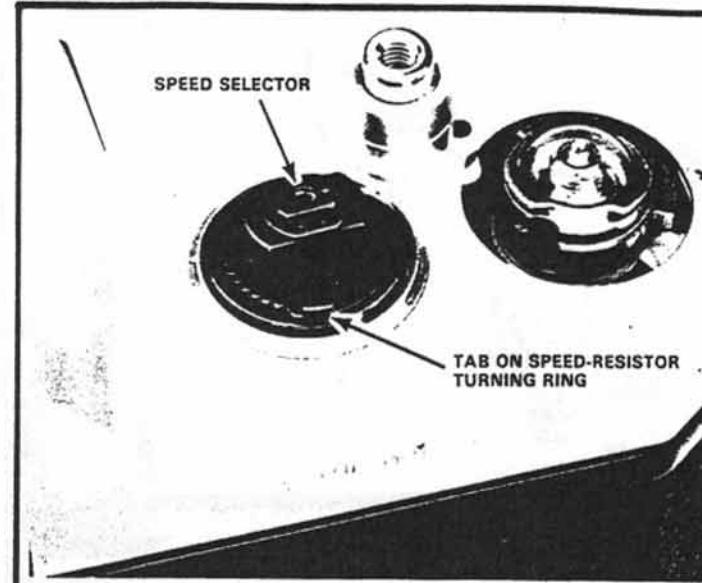
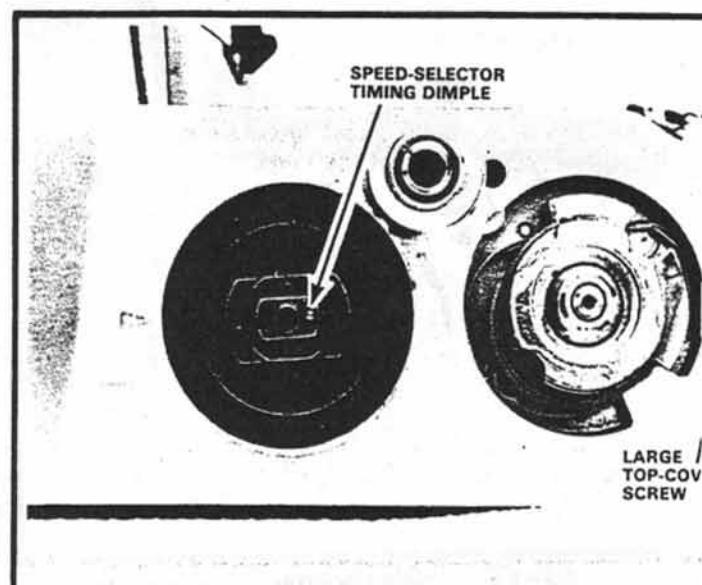

Figure 27
Figure 28 Bulb setting
Notice the slot on the underside of the speed knob -- this slot fits over a tab on the speed-resistor turning ring, Fig. 27. Remember, changing either the shutter speed or the film speed sets the resistance of the speed resistor. That's how the exposure-meter system knows the film-speed and shutter-speed settings.
**REASSEMBLY:** Start with the speed selector, Fig. 27, in the bulb position. You can now rotate the speed selector to any shutter-speed setting. At bulb, the speed-selector timing dimple, Fig. 28, points to the wind-lever end of the camera.
The hole in the center of the speed-knob calibration plate keys to the two flats on the speed selector, Fig. 28. Once you've seated the speed-knob calibration plate over the speed selector, the "B" calibration should be pointing to the index. You can then replace the center screw.